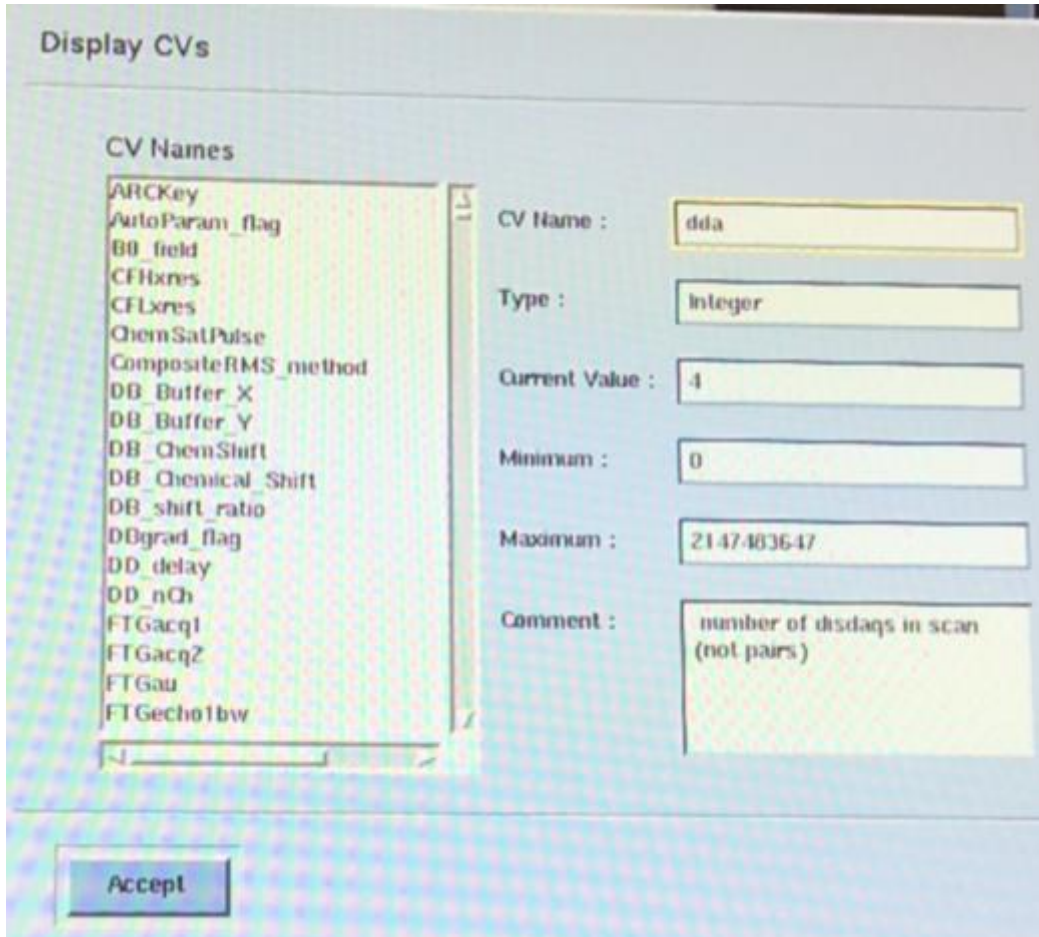

Figure 38: Editing Research CVs for AX THERM scan
8. In the new window that appears (Figure 38), type 'dda' (all lowercase) next to **CV Name**, set the **Current Value** to 0, and then click **Accept**.